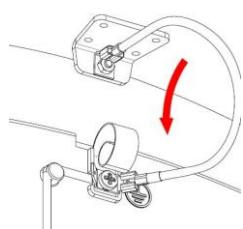

Figure 8.
- Connect earth wire supplied from the upper rib of metal casing to grounding terminal on base plate as shown on Fig.8.
- Carefully place the casing on the base of the device. To do so place it over the base with a slight incline from top to bottom, in such a way that the tab in the casing correctly inserts into the corresponding slot in the base (Figures 8 and n° 9).